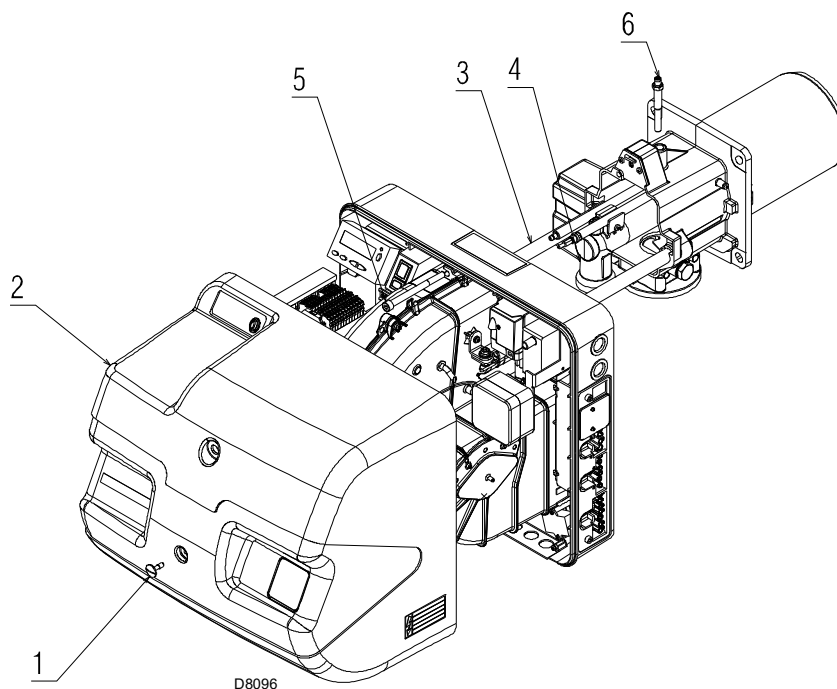

Fig. 37
- Loosen the screws 1)(Fig. 37)and remove the cover 2).
- Remove the screw 5)(Fig. 37) and pull back the burner on the guides 3) by about 100 mm.
- Tighten the screws 5)(Fig. 37) and carefully pull the probe and electrode cables outwards until they are slightly taut.